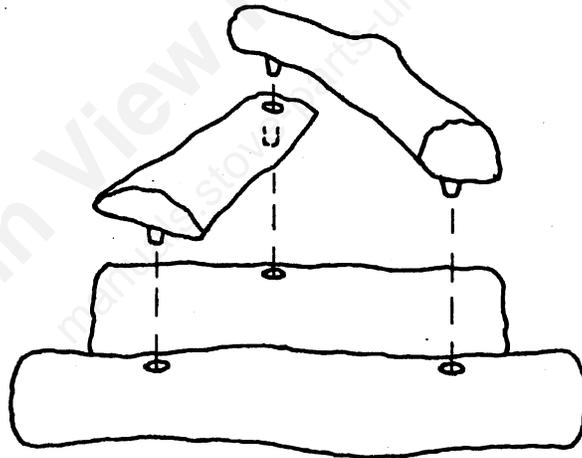

Figure 14 Installing Logs
1. Place the front and rear lower logs as shown in Figure 14:
4. Place the upper right log against the rear brick panel, on top of the upper left and front logs, so that it curves toward the rear of the firebox and does not rotate. Ensure that alignment knobs fit into the recesses in the logs (see Figure 14).